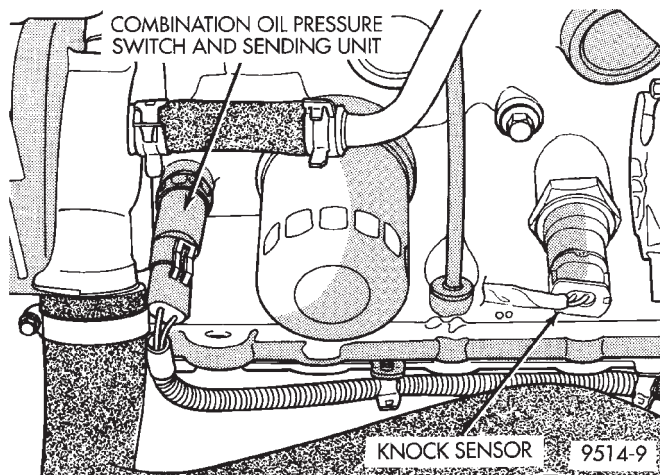

Fig. 78 Knock Sensor and Oil Pressure Sending Unit Electrical Connection
(7) Verify the electrical connector at the knock sensor is fully seated and not damaged (Fig. 78).